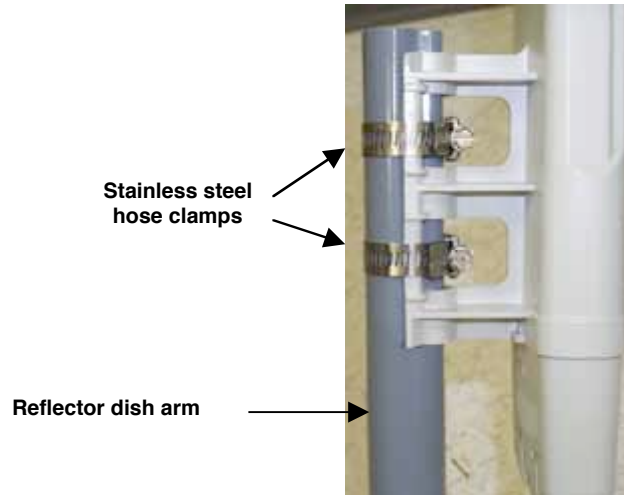

Figure 135: BH attachment to reflector arm
7. Attach the BHM to the arm of the Canopy Passive Reflector dish assembly as shown in Figure 135.